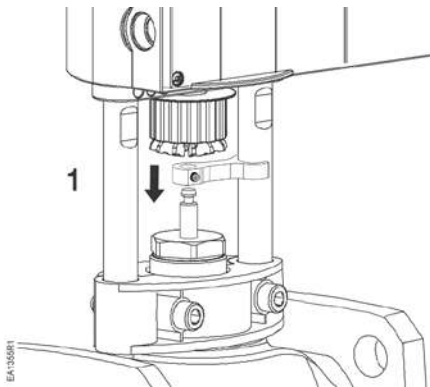

Figure 7.
- Slide the anti-rotation device over the valve stem to a position approximately mid-way between the flats on the valve stem and the stem connection feature. See Figure 7.